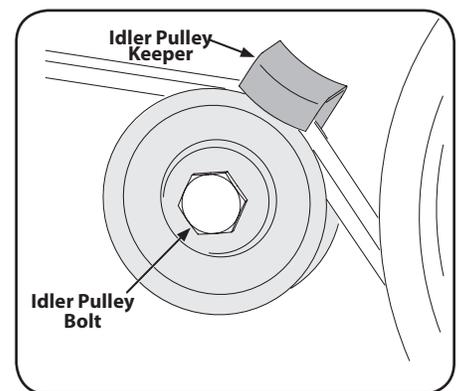

Figure 5-3
3. Remove the idler pulley bolt and move the belt from under the idler pulley keeper. See Figure 5-3.